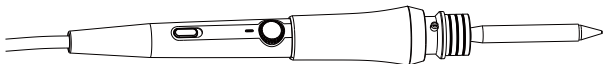

Fig 1
- 2) As Fig 1, push the handle silicone sleeve to it's left untill you see the screw, and unscrew it.